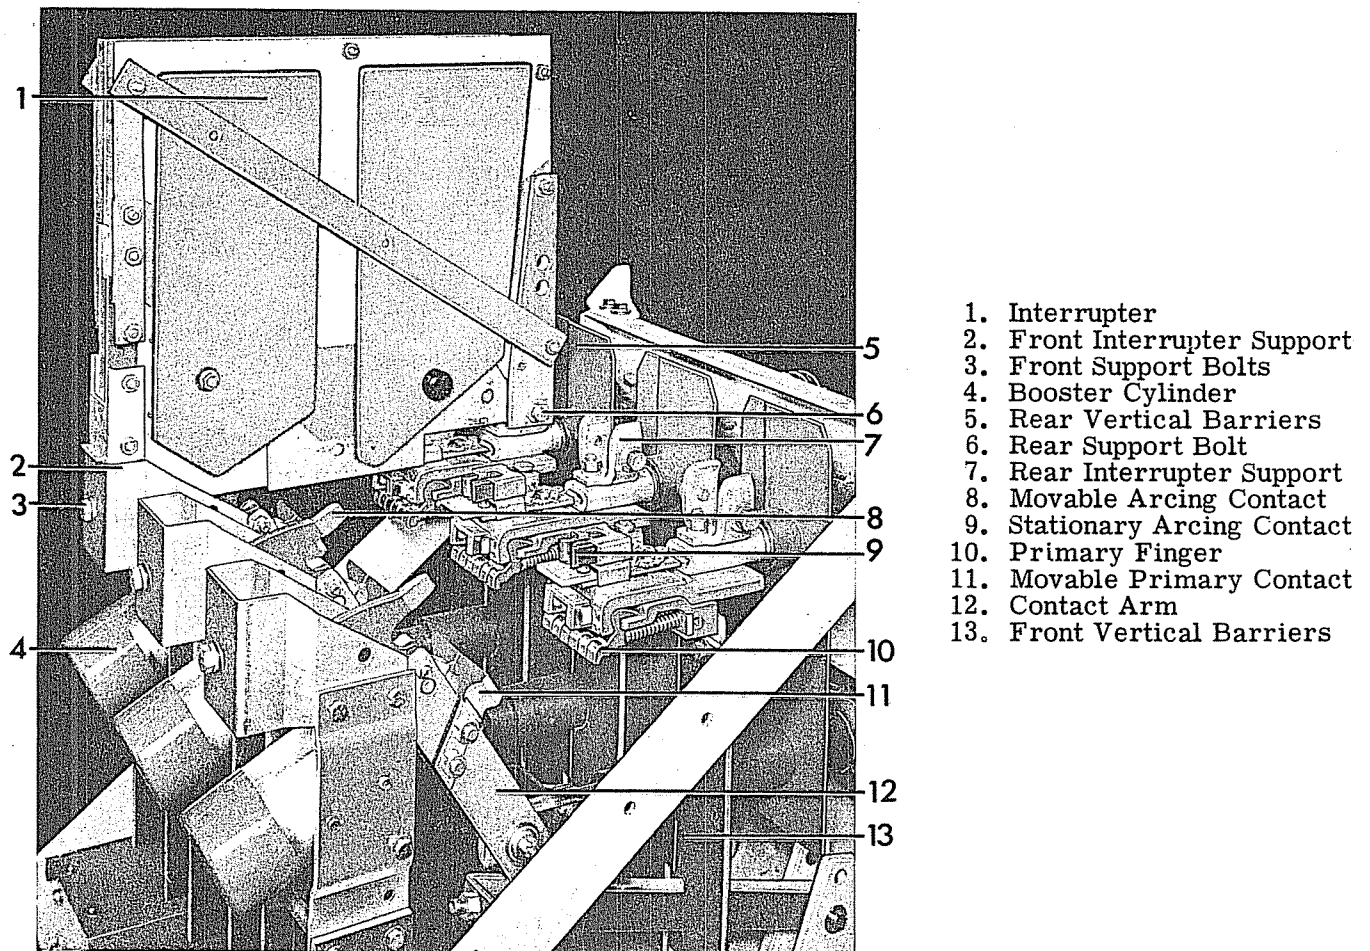

Fig. 15 (8037385) Interrupters partially removed showing accessibility of Arcing Contacts
To remove an interrupter, open the breaker contacts and remove the top cover and box barrier. Referring to Figure 15, loosen the two rear support bolts (6) and the one front support bolt (3) using a standard 3/4" wrench. Slide the complete interrupter assembly approximately 3/8" toward the rear and remove by lifting straight up.